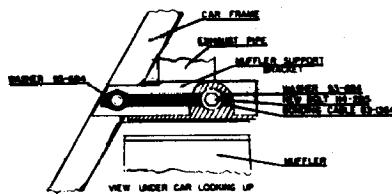

Fig. 2
- 1 - Install a bond 83-1364 between the rear muffler support bolt and the car frame. (Fig. 2)